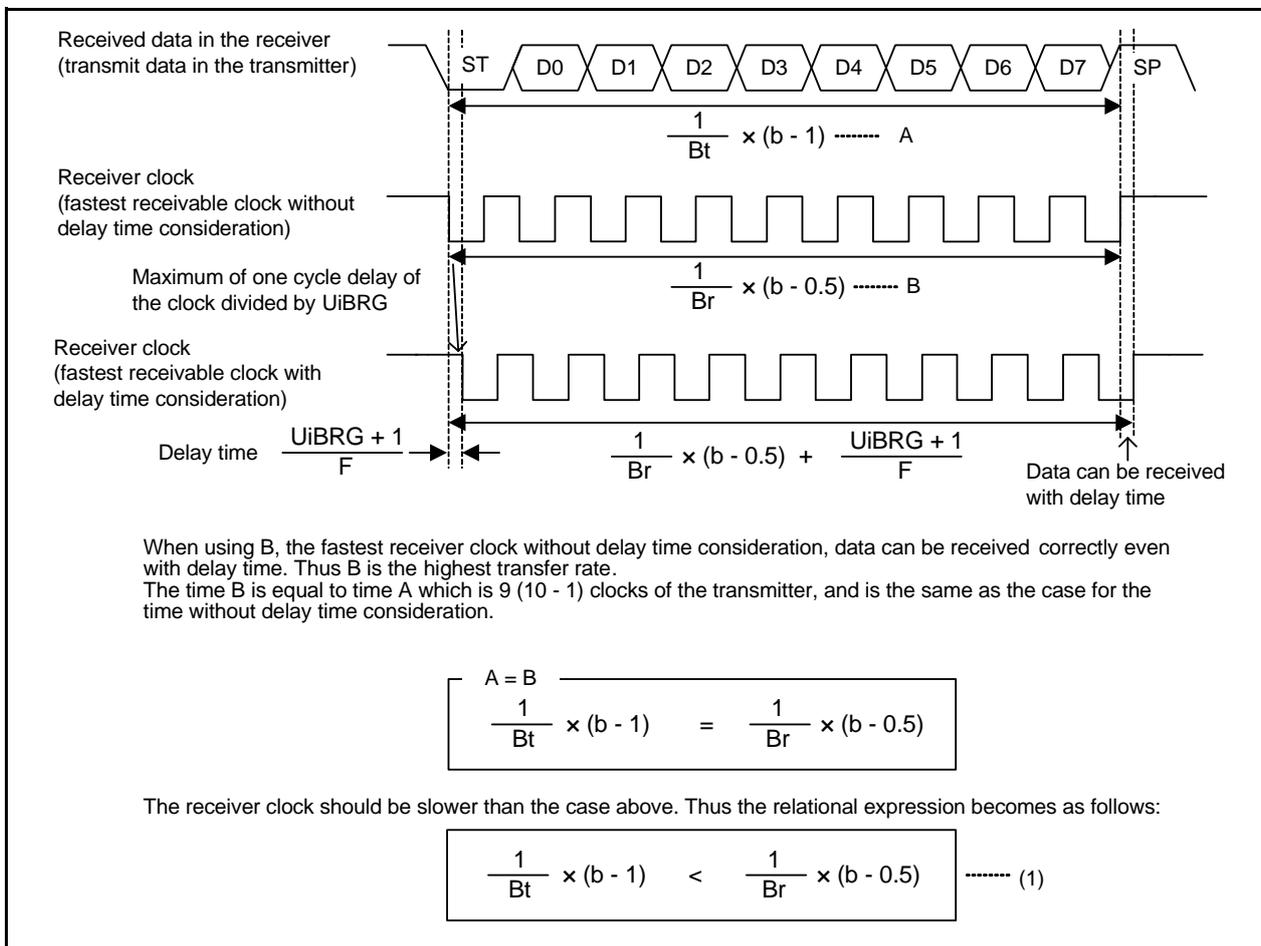
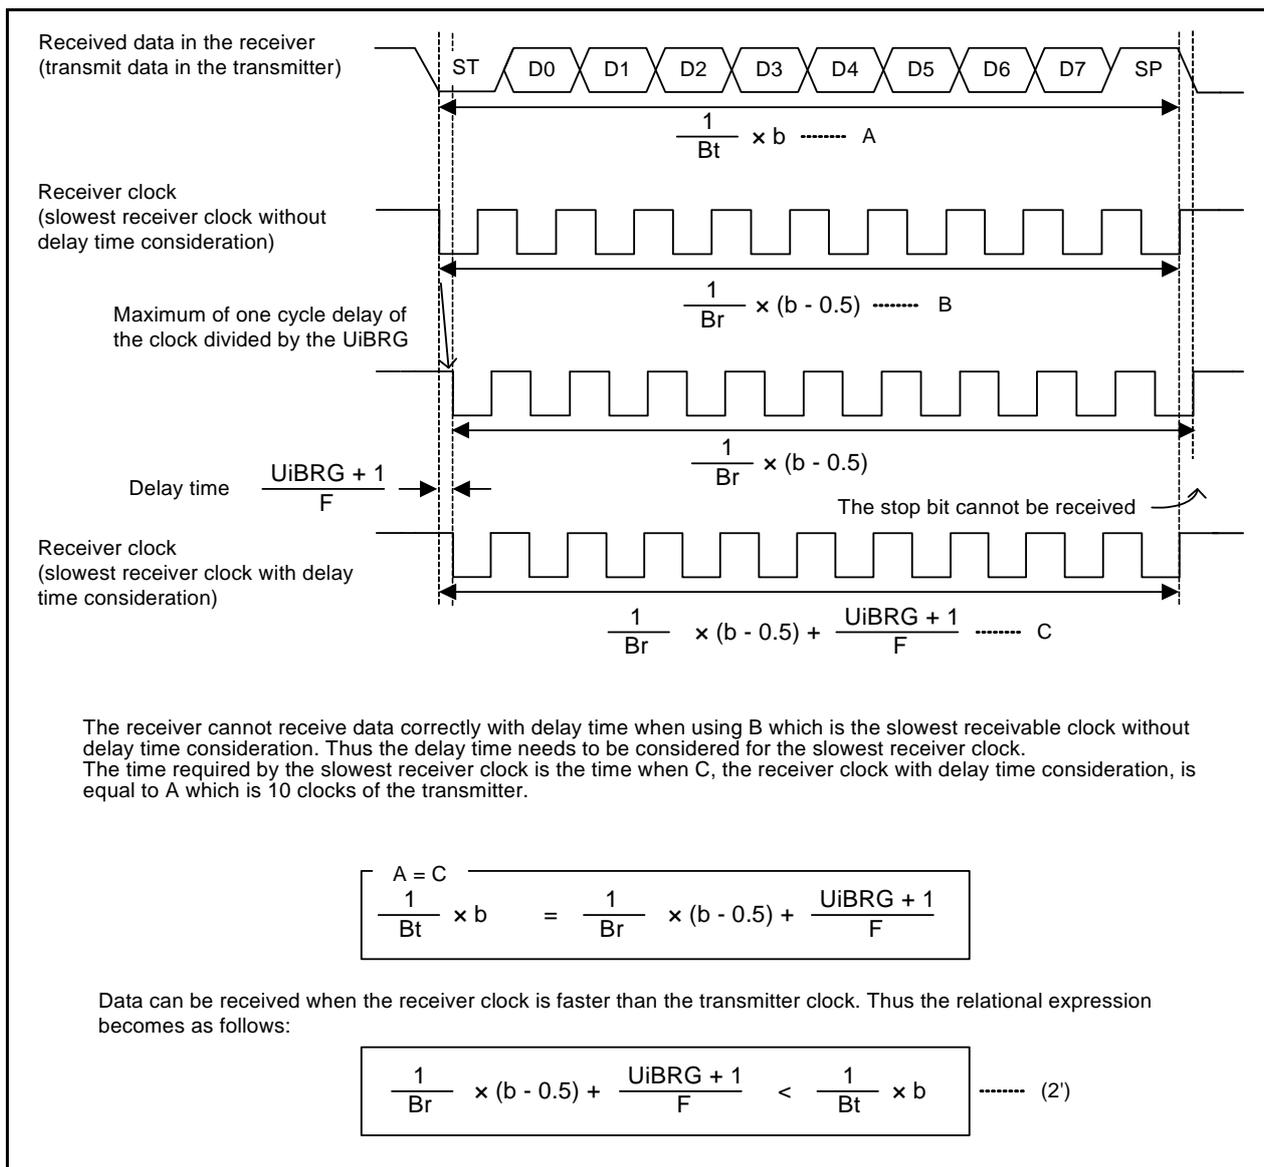

Figure 1.6 Fastest Receiver Clock with Delay Time Consideration
Figure 1.7 Slowest Receiver Clock with Delay Time Consideration
Figure 1.6 shows the Fastest Receiver Clock with Delay Time Consideration, and Figure 1.7 shows Slowest Receiver Clock with Delay Time Consideration.
With delay time consideration, formula (1) in Figure 1.6 and formula (2') in Figure 1.7 produce the following formulas.